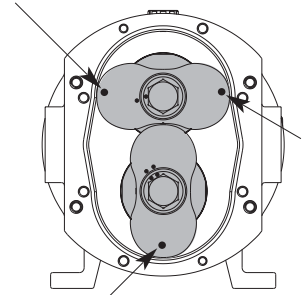

Figure 13
1. Measure the difference in depth between the rotors **27** and the side of the rotor case **9** using a depth micrometer. The points at which you should measure the depths are shown in figures 13 and 14. The rotors are, then, turned 180° and measured again, making a total of 12 measurements.